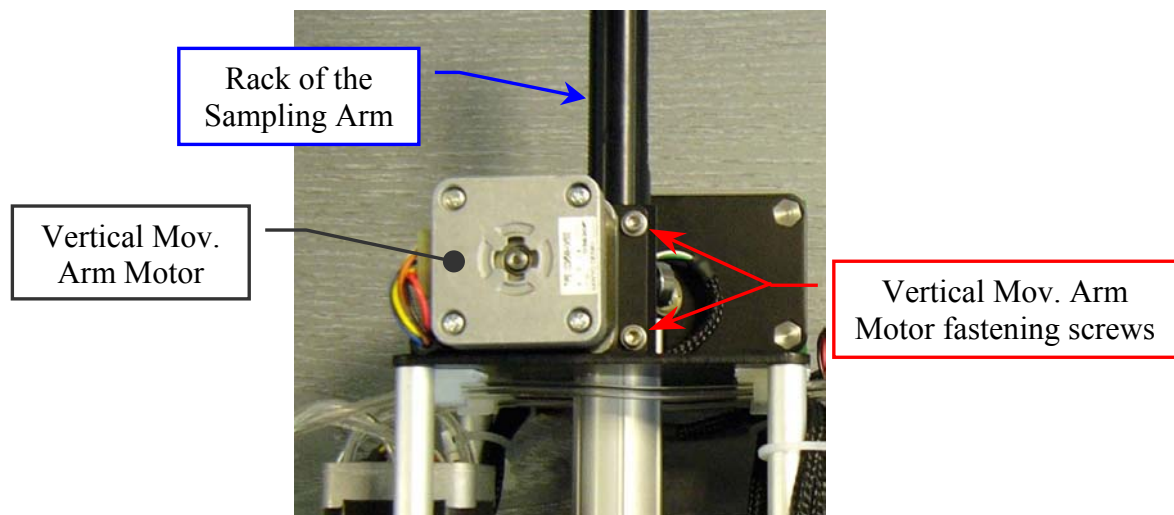

Fig. 17 – Vertical Mov. Arm Motor fastening screws
3. Unscrew the four fastening screws of the Vertical Mov. Arm Motor (**Fig. 17**) and take out it from its housing.
8. Replace the Vertical Mov. Arm Motor on its housing of the Sampling Arm Assy (**Fig. 17**).
10. Screw the four fastening screws of the Vertical Mov. Arm Motor (**Fig. 17**).